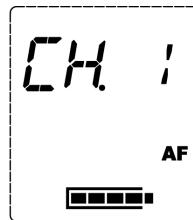

FIGURE 12
The screen then switches to the normal operational view as shown in Figure 12 displaying the current Channel in use, the Audio Frequency emblem (AF), and the Battery Power meter. After 2 seconds of displaying this screen the backlight will then go out.
If no action is taken upon entering the Channel Select mode for 3 seconds the LCD backlight will shut off and the unit will revert back to its normal operational mode as previously shown in Figure 12.